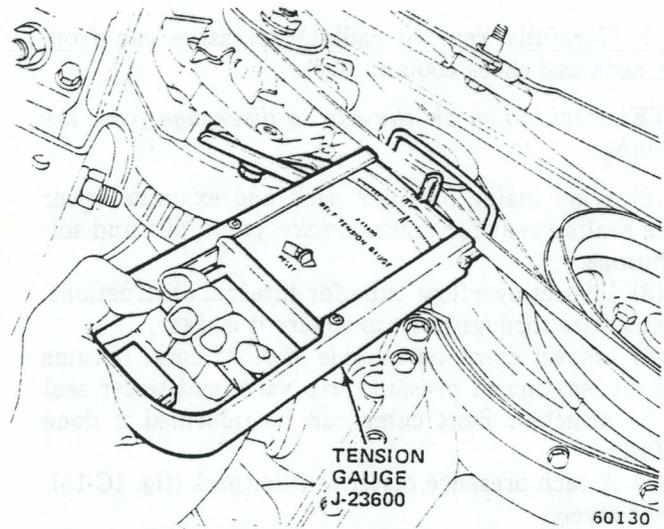

Fig. 1C-16 Testing Drive Belt Tension—Typical
- (1) Locate drive belt that is to be tested for correct tension.
- (2) Test tension with Gauge J-23600 (fig. 1C-16).
- (3) If necessary, adjust drive belt.
- (4) Test tension after adjustment.